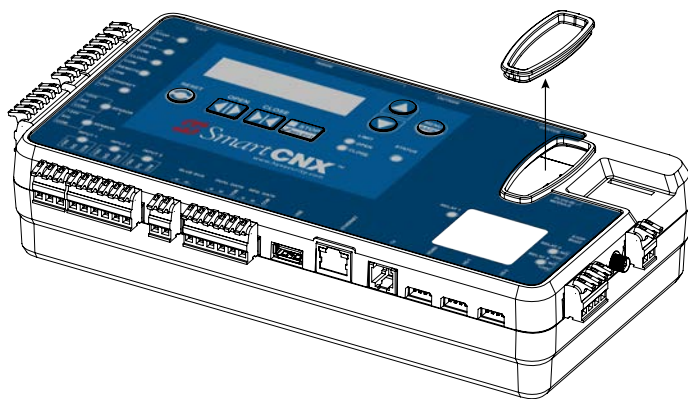

Figure 58. Remove OXI Receiver Cover
2. Remove the rubber plug or OXI receiver from OXI receiver slot (Figure 58).